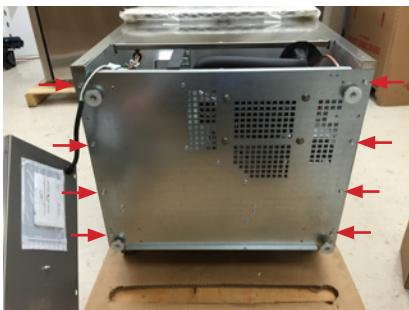

FIGURE 3
3. Remove (4) 3/8" bolts from both left and right of the bottom panel (figure 3). Insert a 2x2 to hold bottom down (figure 4). Remove the pull pins located on each bolt of the compressor legs. Pull compressor up to clear bolts and pull out. With compressor removed change drier. Reinstall compressor in reverse order.